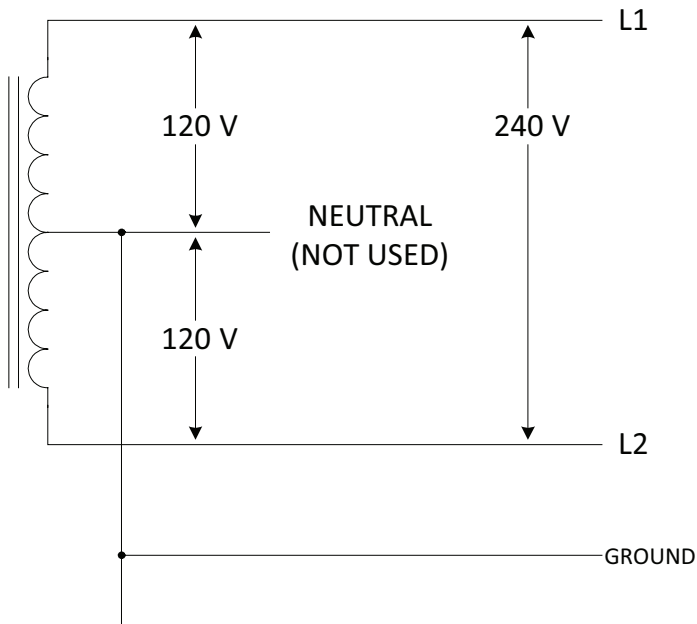

Figure 3: 220 V/240 V single phase
**CAUTION:** This is a single-phase device. Do not connect all three phases of a three-phase feed! You may use any two phases of a three-phase wye-transformer feed. The center point of the three phases (usually used as Neutral) **must** be grounded somewhere in the system. A Neutral connection is not required by the EVSE. Only Line 1, Line 2, and Ground are required, as shown in Figure 3.